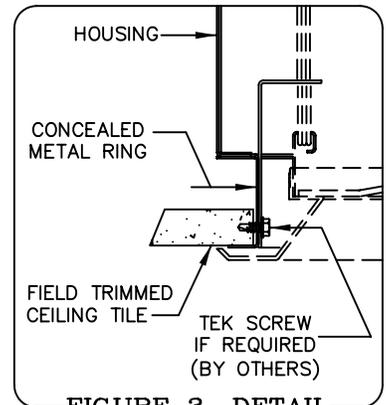

FIGURE 3. DETAIL
4. TRIM CEILING TILES TO FIT AROUND RADIUS OF CONCEALED METAL RING. (SEE INSTALLED PICTORIAL VIEW.) TILES SHOULD REST ON TOP SURFACE OF CONCEALED METAL RING FLANGE. TEK SCREWS CAN BE USED TO DRILL THROUGH CONCEALED METAL RING AND INTO CEILING TILE IF REQUIRED. (SEE FIGURE 3 DETAIL). TEK SCREWS PROVIDED BY OTHERS.
**NOTE:** WHEN SURFACE/WALL MOUNTING, ALLOW SPACE AROUND FIXTURE TO ACCESS LAMP (MOUNTING HARDWARE BY OTHERS). (SEE FIG. 3)